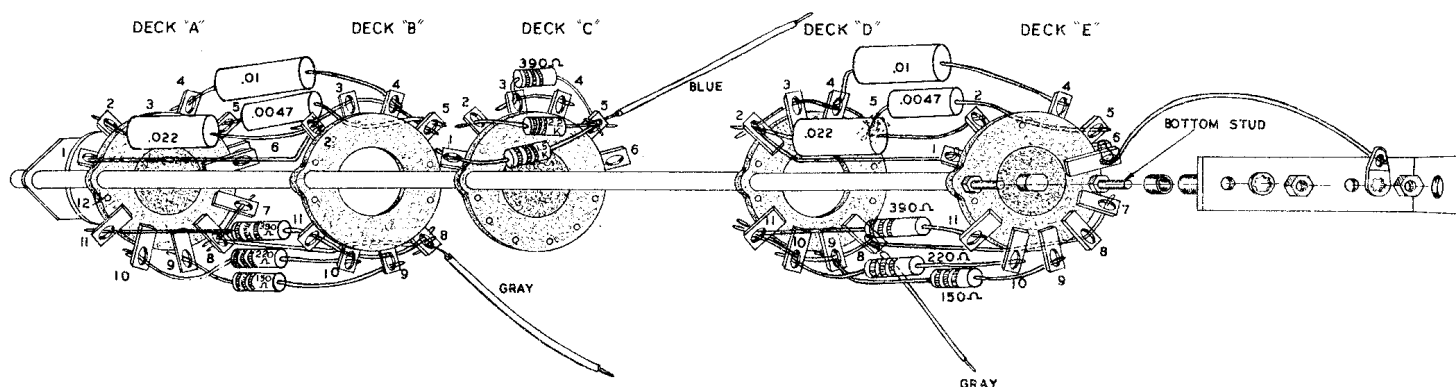

Figure 3
See Figure 3 for following wiring.
() Insert a bare wire through B2 to A1; form the wire as shown between B2 and A1. Run the other end of the wire from B2 through B3, B4 to B5 as shown in Figure 3. Solder A1 only.
() See Figure 3 and form a bare wire from B8 through B9, B10 to B11 (NS).
() Insert a bare wire through D2 to E1; form the wire as shown between D2 and E1. Run the other end of wire from D2 through D3, D4 to D5, as shown in Figure 3; solder E1 only.
() See Figure 3 and form a bare wire from D8 through D9, D10 to D11 (NS).
- () On deck C, connect a 1.5 K ohm resistor (brown-green-red) from C1 (S) to C5 (NS); run wire as shown, to avoid shorting other contact.
- () Strip both ends of a 2" piece of blue wire; connect one end to C5 (NS). Leave other end free.
- () Slip two small insulating washers over the switch studs and mount the rear support bracket. Use a 4-40 nut and lockwasher on the top stud and a #6 solder lug and nut on the bottom (stud), being sure the bracket faces in the right direction. See Figure 3.
- () Connect a short bare wire through both lugs at E6 (S) to the adjacent solder lug (S). Set the switch aside until final assembly.